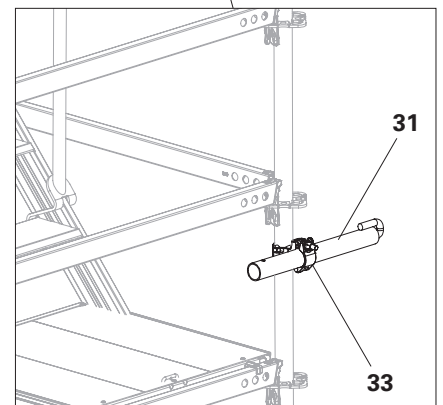

Fig. B4.03a
2. Fasten the Standard Coupler RA 48/48 (**33**) to the inner leg with Wall Tie UWT 45 (**31**). (Fig. B4.03a)